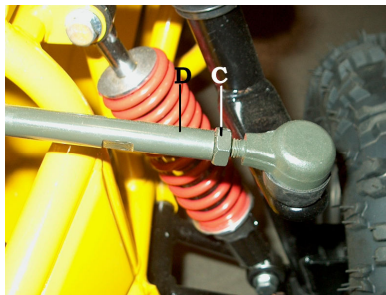

Fig. 6-2
- To adjust the alignment, loosen the lock nuts (C) on both sides of Front Tie Rods (D). (Fig. 6-2 And 6-3) To make dimension B smaller, turn the rod to the left. Adjust the rod to right direction to make dimension B larger. After adjusting to the desired length, tighten the lock against the rod end. Recheck the dimensions for proper alignment.